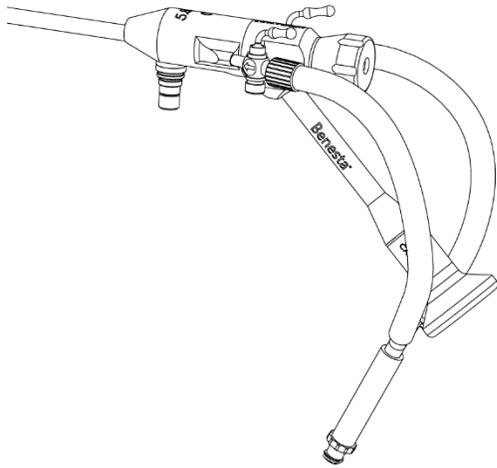

Figure 4. Y-Tubing attachment
2. Connect the single-use Y-tubing to both male Luer connectors on the hysteroscope, as shown in Figure 4. Single-use Y-tubing is provided separately in the fluid pack.